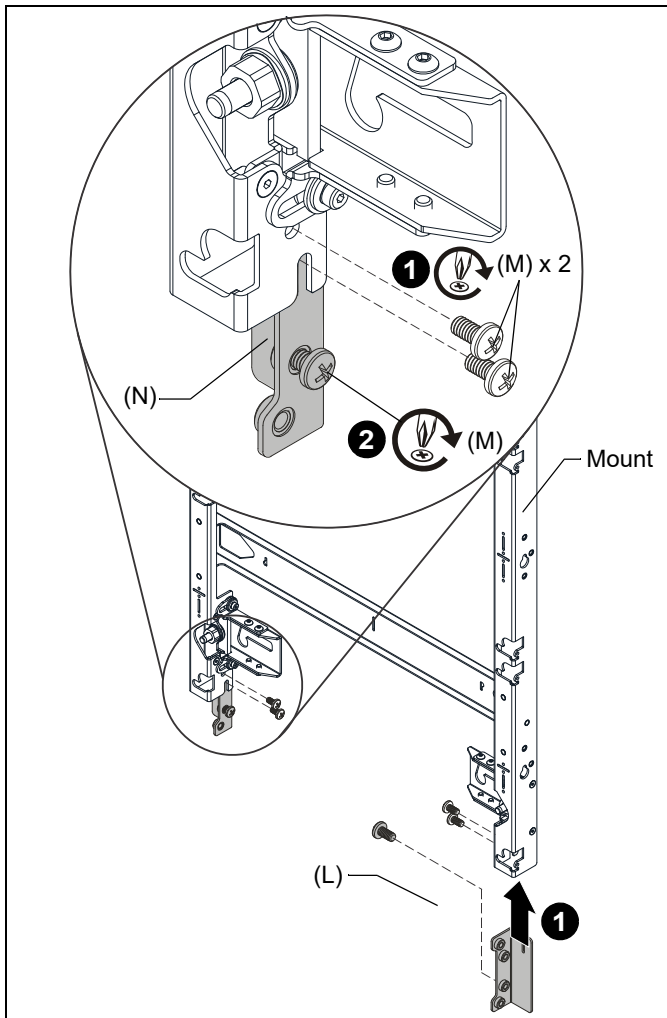

Figure 2
1. Slide the vertical connector (N) up from the bottom of the mount, and attach with two 1/4-20 x 1/2" Phillips pan head screws (M) per vertical connector. (See Figure 2)
2. Loosely install one 1/4-20 x 1/2" Phillips pan head screw (M) in the upper screw hole at the bottom of each vertical connector (N). (See Figure 2)